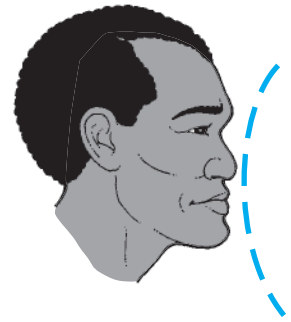

FIGURE 9 | Concave profile (prominent forehead and chin).
- *Concave profiles* require a close hair arrangement over the forehead to minimize the bulge of the forehead (Figure 9).